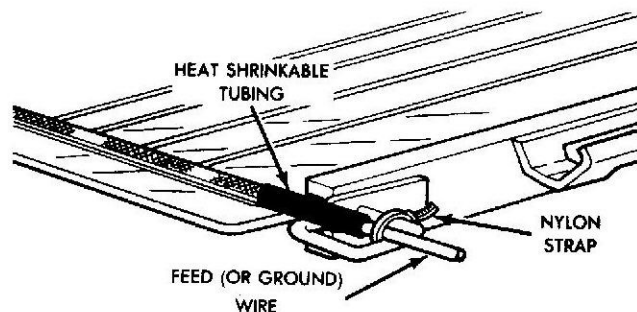

Fig. 3 Tailgate Glass With Defogger Wire In Position
(7) Solder feed or ground wire(s) to braided strap keeping joint as small as possible. Be sure solder joint is as close as possible to glass.
(8) Slide heat shrinkable tubing over the solder joint(s) (see fig. 3).